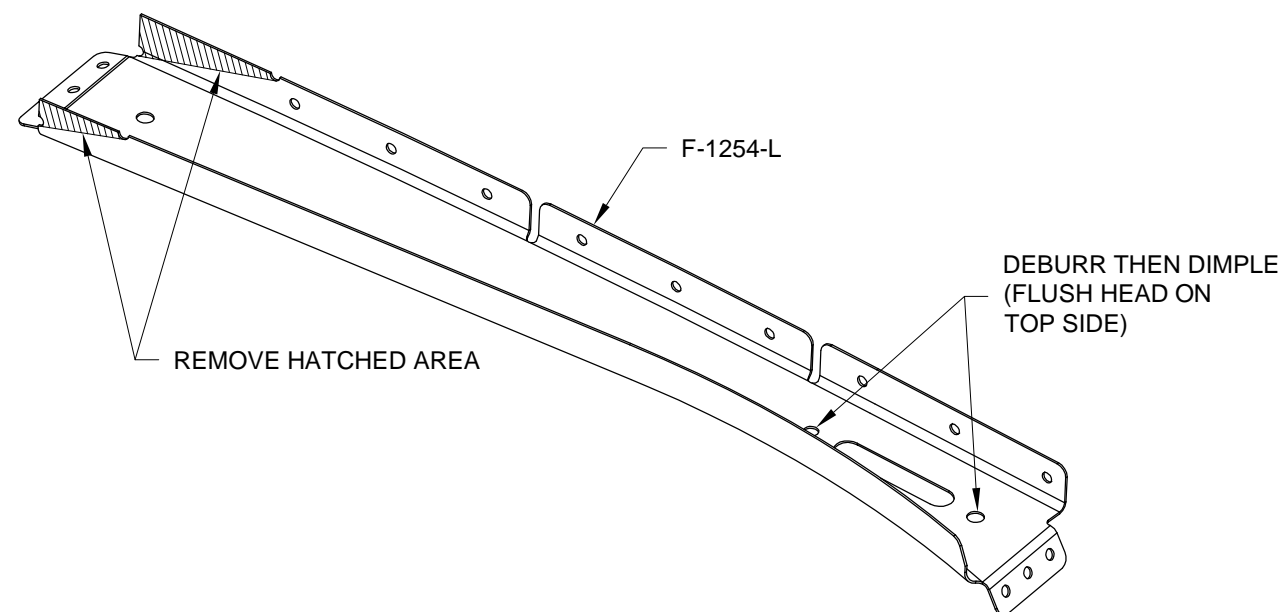

FIGURE 2: TRIMMING THE SUPPORT FRAMES
Step 6: Remove the hatched areas shown in Figure 2 from the flanges of both the F-1254-L & -R Support Frames.
Step 7: Deburr then dimple both holes indicated in Figure 2 for the head of a #8 screw.